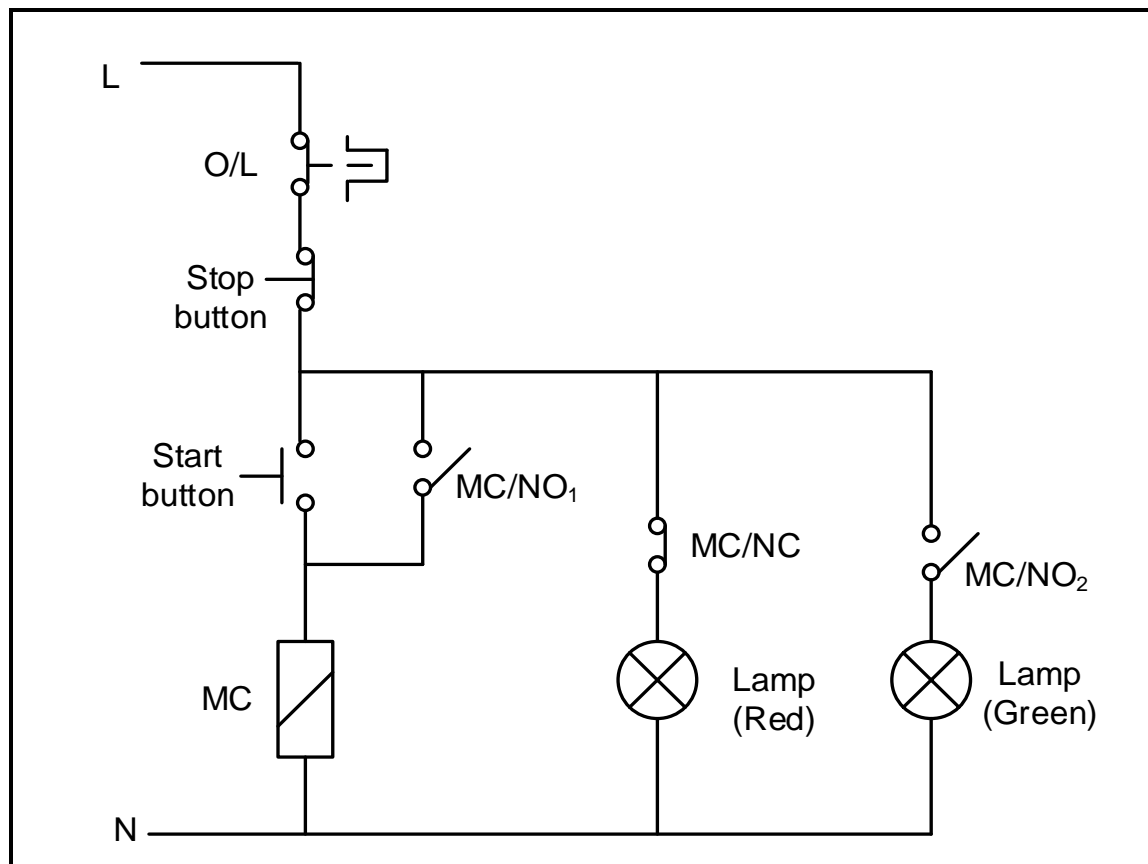

FIGURE 6.8: CONTROL CIRCUIT
6.8 Refer to the control circuit in FIGURE 6.8 below and answer the questions that follow.
- 6.8.3 Draw a ladder logic diagram that will execute the same function as the control circuit in FIGURE 6.8. (9)